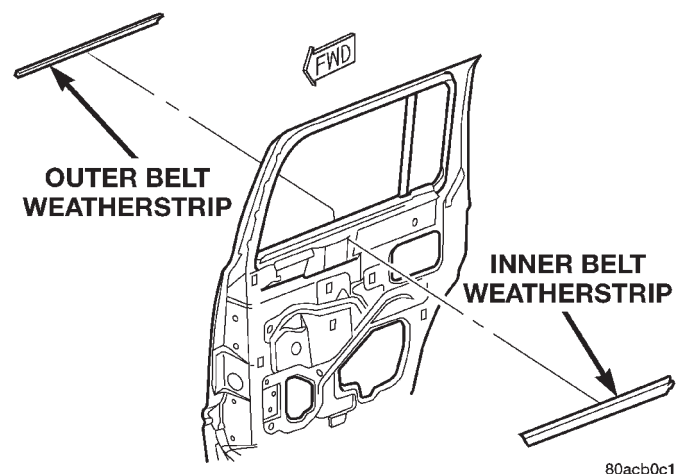

Fig. 53 Inner/Outer Belt Weatherstrip
- (1) Remove trim panel.
- (2) Pull weatherstrip from inner door panel (Fig. 53).
- (1) Position weatherstrip on inner door panel (Fig. 53).
- (2) Press into place.
- (3) Install trim panel.
- (1) Lower glass.
- (2) Lift corner of weatherstrip upward and remove weatherstrip from outer door panel (Fig. 53).
- (1) Position weatherstrip on outer door panel (Fig. 53).
- (3) Raise glass.